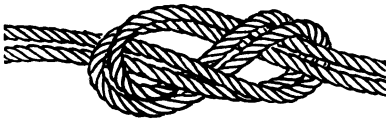

FIG. 22
**Flemish Knot.** Ropes are often tied together by laying the two ends side by side and making the Flemish knot. (Fig. 22.) This knot is made in the same manner as the figure eight (figs. 20 and 21).